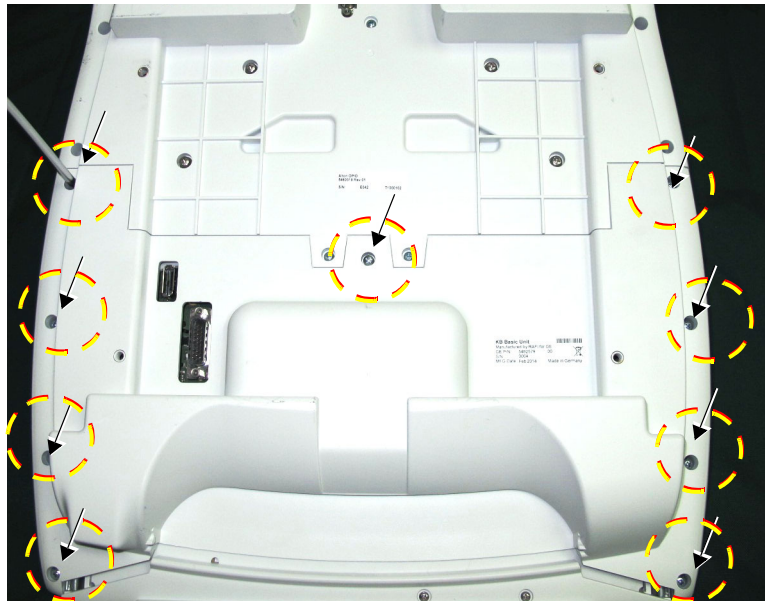

Figure 8-86 Operator Panel Keyboard Assembly - Bottom Cover Securing Screws
- 3.) Loosen and remove the 9 Phillips screws that secure the bottom cover in place - see Figure 8-86
- 3.) Return and fasten the 9 Phillips screws (previously removed) to secure the bottom cover to the keyboard assembly - see Figure 8-86.